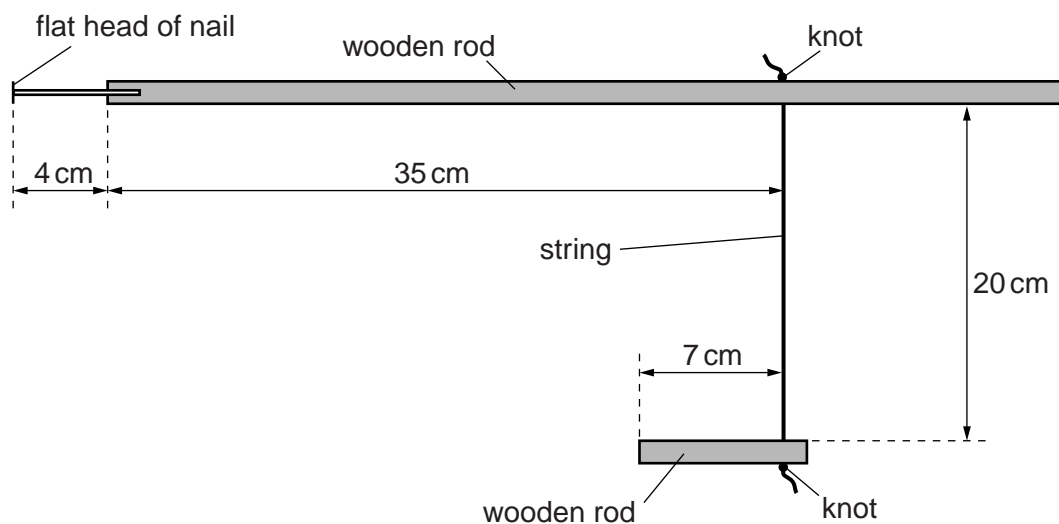

Fig. 2.1
- 1 The two wooden rods, nail and string should be assembled as shown in Fig. 2.1.